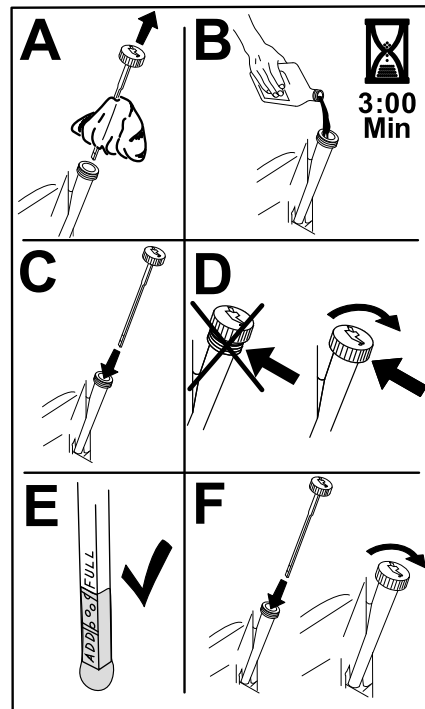

Figure 47
5. Slowly pour approximately 80% of the specified oil into the filler tube and slowly add the additional oil to bring it to the Full mark (Figure 47).